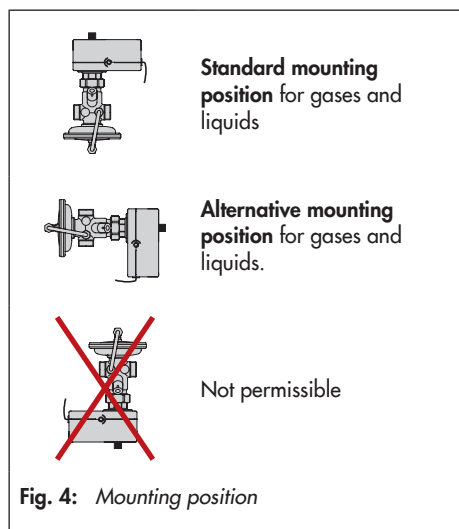

Fig. 4: Mounting position
- ➔ Install the regulator in a horizontal pipeline with the diaphragm actuator facing downward (see Fig. 4).
- ➔ When the medium temperature is **80 °C or lower**, the regulator can also be installed in vertical pipes (see Fig. 4).